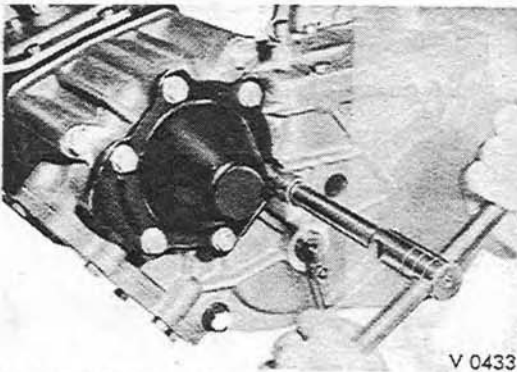

Fig. 3-7. Removing the spline shaft cap from the transfer case.
1. Remove the six hex-head cap bolts and spring washers that secure the spline shaft cap to the transfer case. (Fig. 3-7)